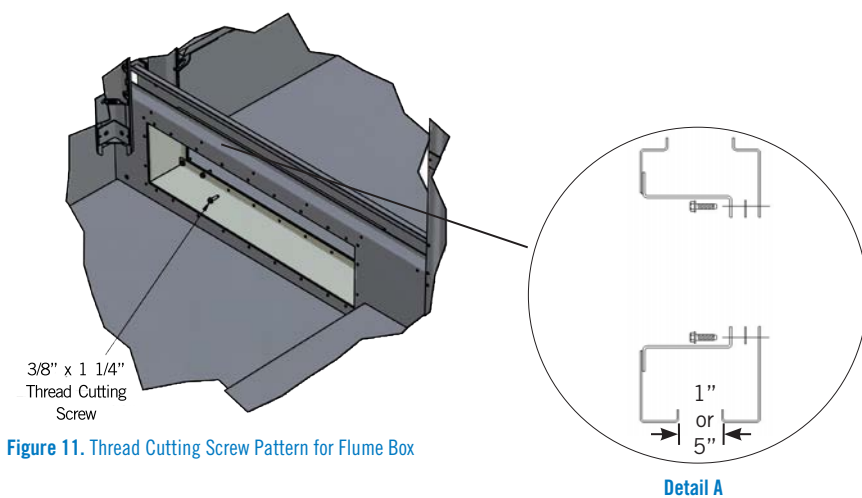
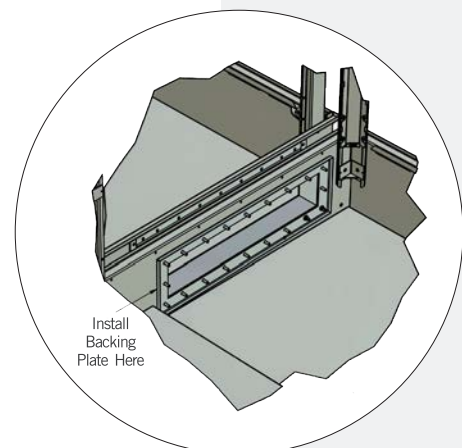

Figure 11. Thread Cutting Screw Pattern for Flume Box
Figure 12. Backing Plate Installation
6. As illustrated in **Figure 11**, insert 3/8" x 1 1/4" thread cutting screws in each hole from the flume box into the basin wall and tighten. For basins with TriArmor® Corrosion Protection System and stainless steel basins, bolt strips are provided in lieu of individual thread cutting screws. For TriArmor basins only, a backing plate is provided and must be installed inside of Cell #2, as seen in **Figure 12**. Secure using the provided hardware.